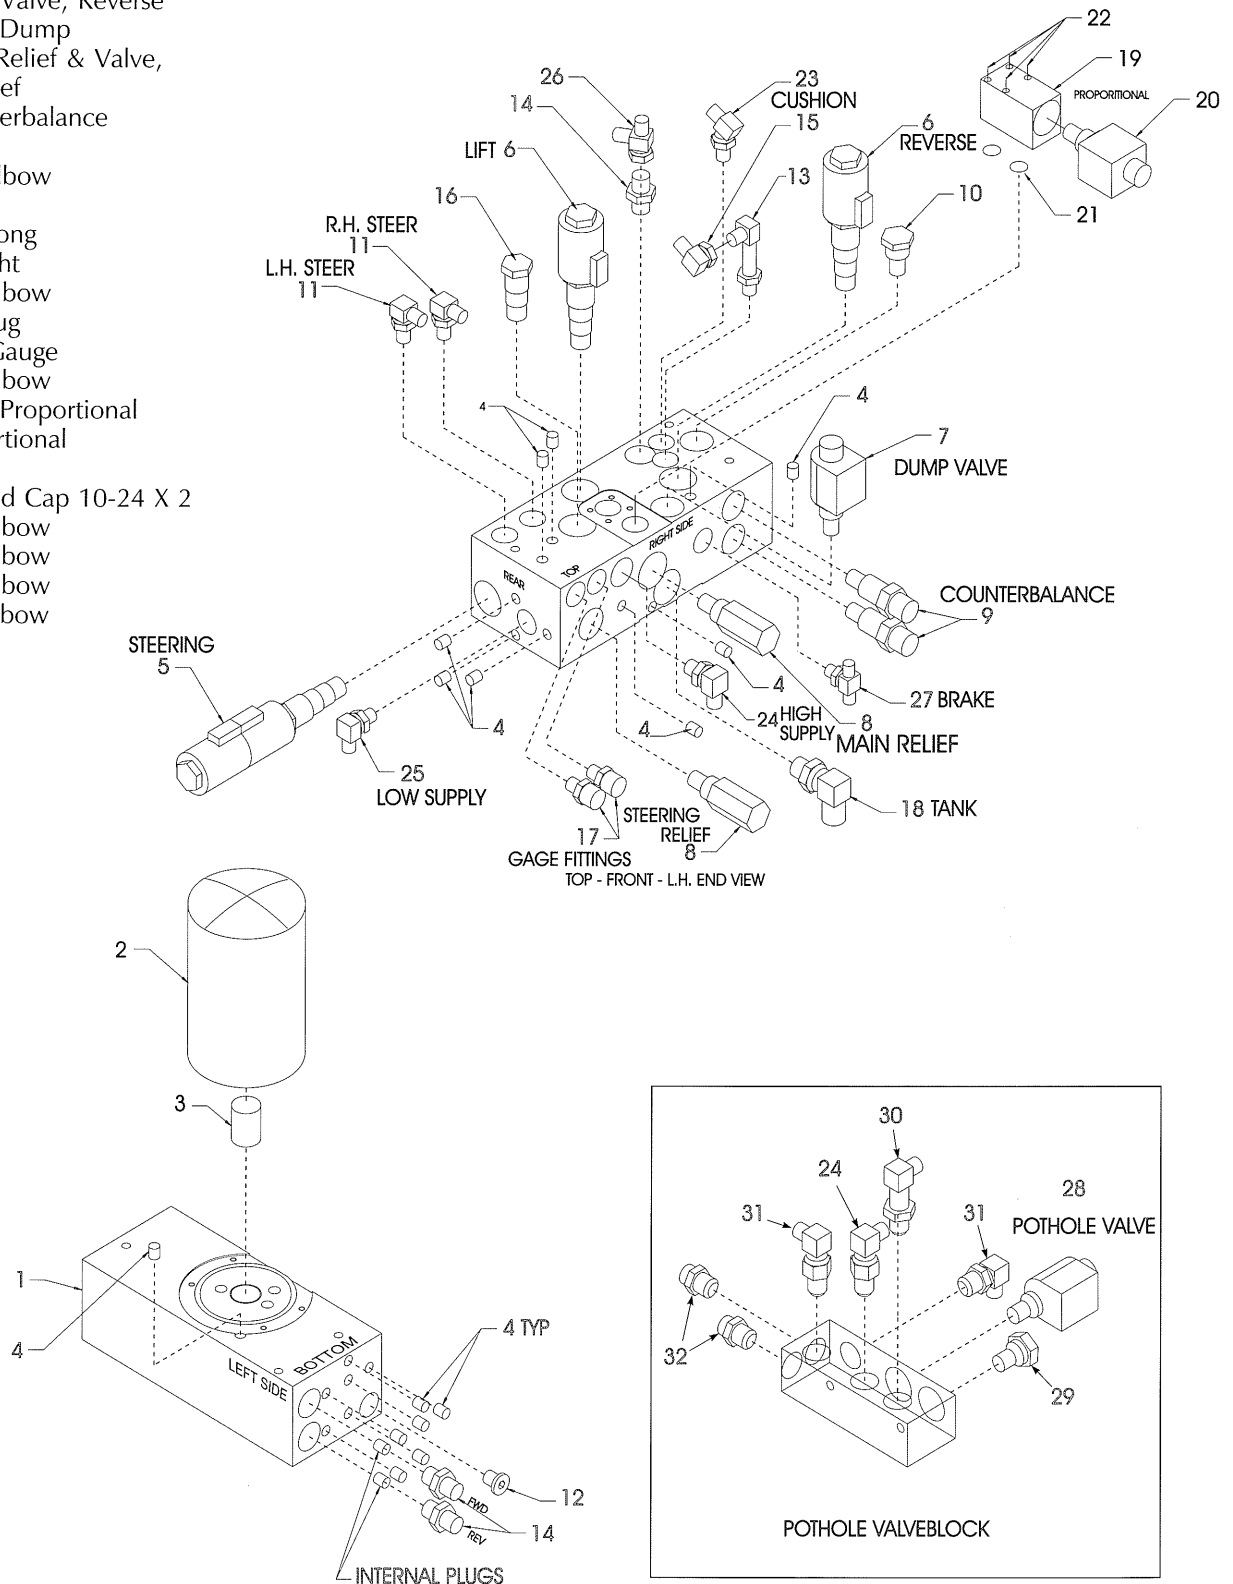

Figure 3-10: Hydraulic Manifold, Exploded View
3.7 Hydraulic Manifold (Figure 3-10)
NOTE: Mark all components as they are removed so as not to confuse their location during assembly. Refer to Figure 3-10 often to aid in disassembly and assembly.